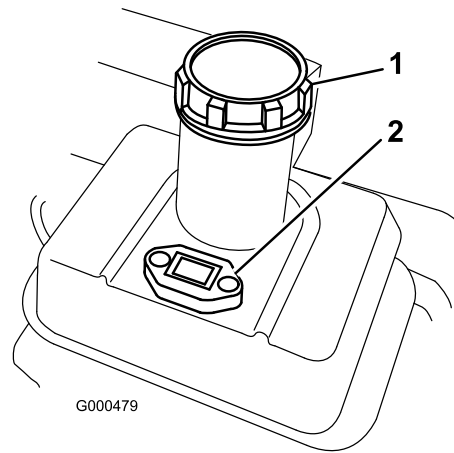

Figure 15
1. Clean around fuel tank cap and remove cap from tank (Figure 15). Using unleaded gasoline, fill fuel tank no higher than to bottom of filter screen. Do not overfill.